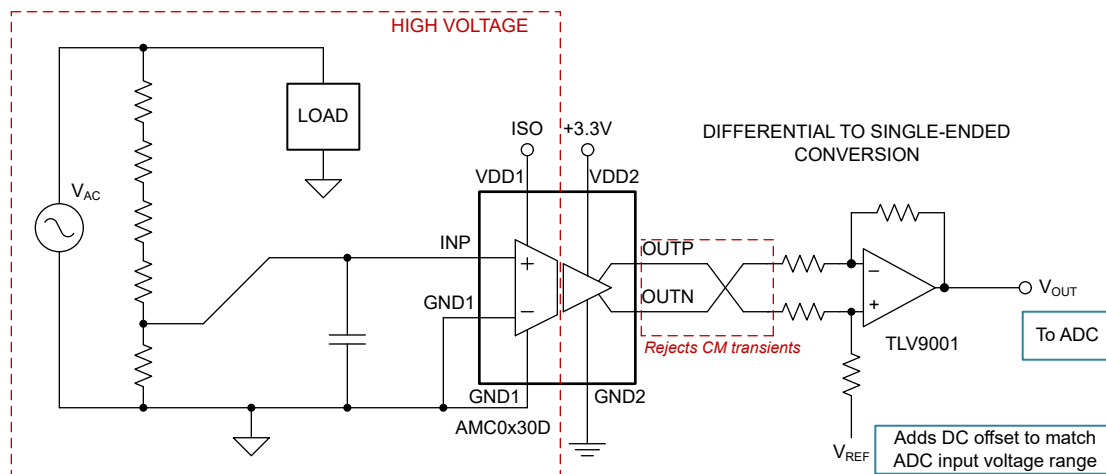
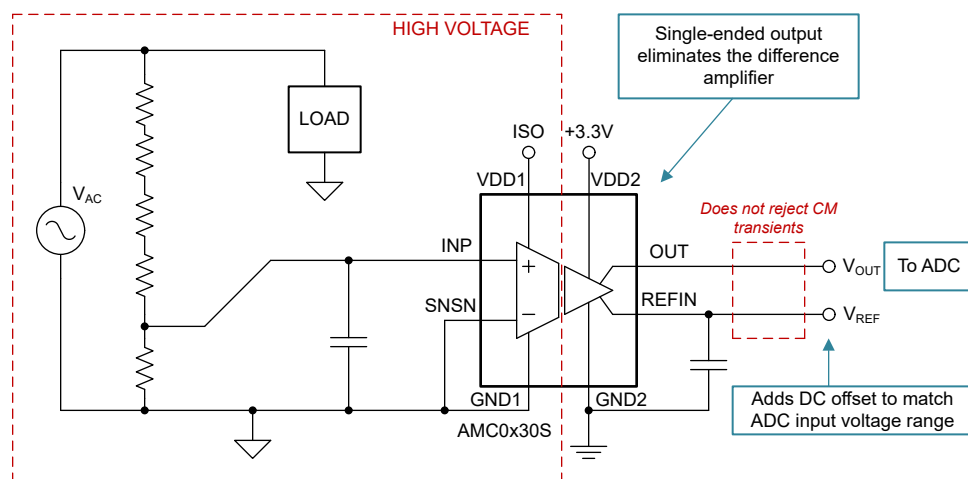

Figure 1-1. Example of the System With Differential Output
Figure 1-2. Example of the System With Single-Ended Output
The most common versions of isolated amplifiers feature a fully differential output as shown in Figure 1-1. This configuration is beneficial in systems where the common mode (CM) noise can interfere with the signal chain between the amplifier and the analog-to-digital converter. However, in systems where the CM noise is not a concern, the single-ended output isolated amplifier (Figure 1-2) eliminates the need for a difference amplifier, typically required with the differential outputs. A good example is the AMC0330 family of voltage sensing devices that offer both output types.